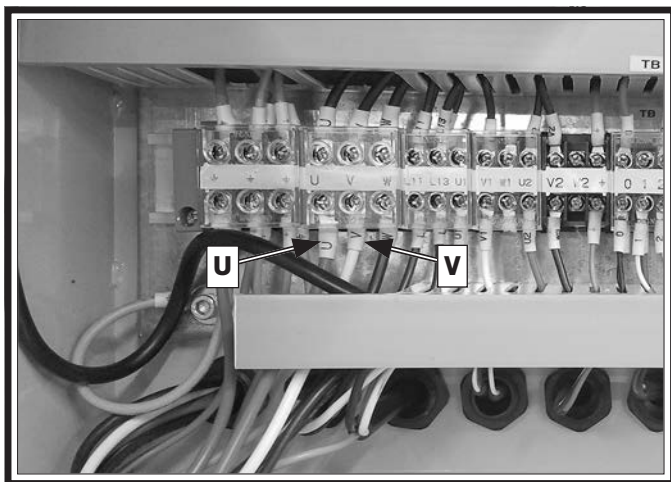

Figure 6. Location of "U" and "V" terminals.
2. Open the electrical box and swap wires connected to "U" and "V" terminals on terminal bar (see **Figure 6**).